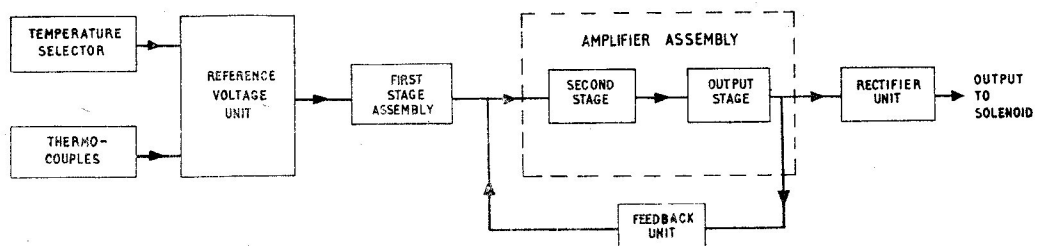

Fig. 3. Block diagram of amplifier
4. The reference voltage is derived from a resistance network, supplied by transformer TR5 to the rectifiers assembly and stabilized by the neon V1 (*fig. 3* and 5). One arm of the resistance network includes the temperature selector, the value of which is chosen to provide the correct operating temperature for the system. The thermocouple voltage is compared with the reference voltage and the resultant signal is applied to the control winding of transducer X2 in the first stage of the amplifier. There is no input in the amplifier when the thermocouple e.m.f. balances the reference voltage. A resistor R14 across the thermocouple terminals prevents maximum fuel delivery to the engine in the event of the thermocouples becoming open-circuited. The resistors forming the voltage reference network include a cold junction compensator R13, to allow for changes in ambient temperature of the